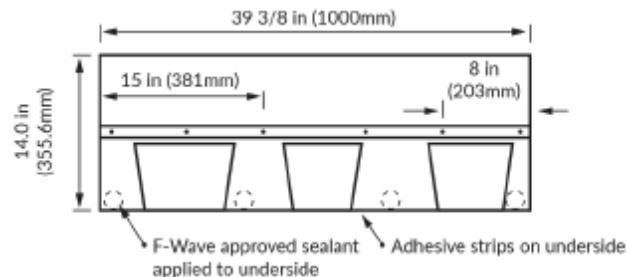

FIGURE 2 - REVIA ROOFING SHINGLE STARTER PIECE
5.4 The shingles must be installed starting with a row of *REVIA Starter Shingles* (see Figure 2). The starter shingles must extend 3/8 inch over the eaves and rakes and must be installed with six fasteners installed per the manufacturer's instructions.